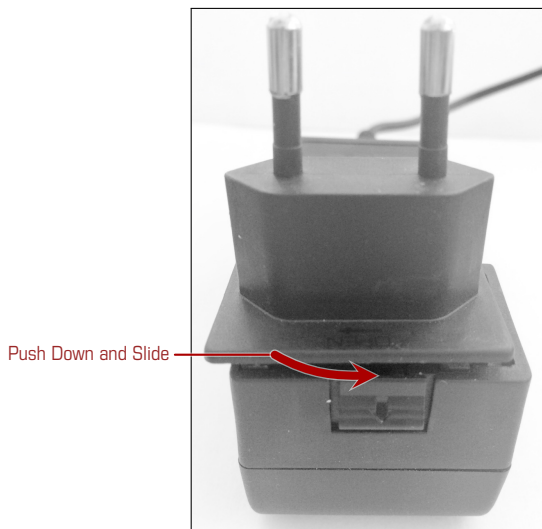

Figure 145: Mounting an adaptor to the wall power supply
2. Insert the desired adaptor into the socket and move it until it snaps into place (Fig. 145, p. 116).